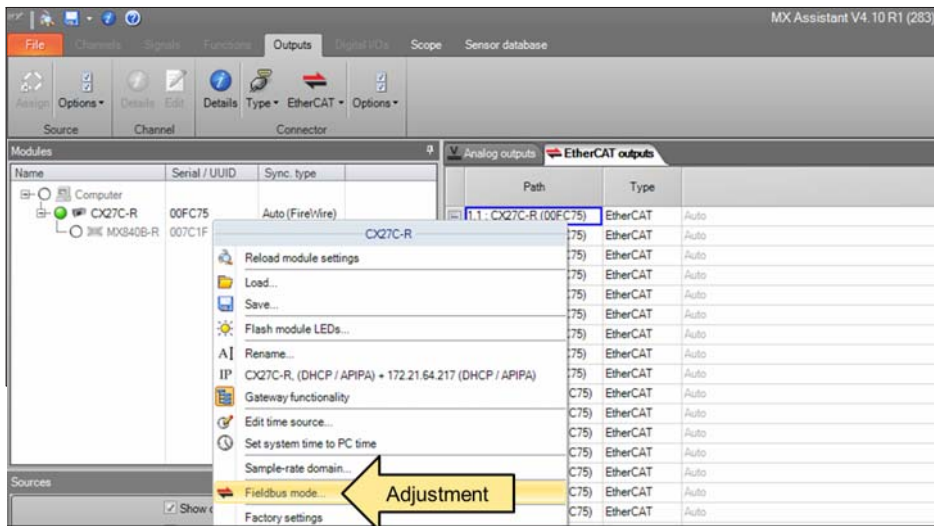
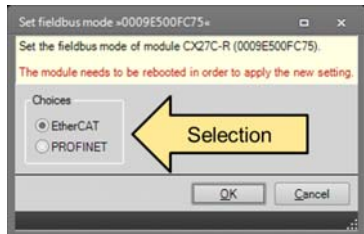

Fig. 5.1 Switch fieldbus mode
Fig. 5.2 Select fieldbus
4. You can pull up the fieldbus mode menu by right-clicking on the CX27C-R (see *Fig. 5.1*). There you can choose between EtherCAT and PROFINET (see *Fig. 5.2*).